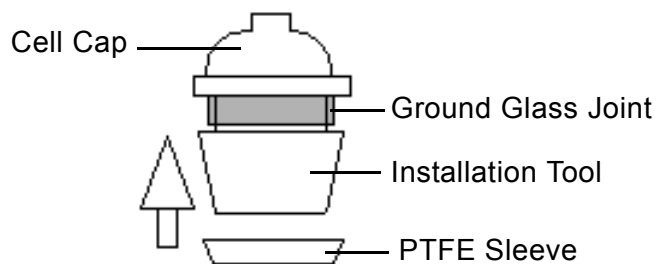

Figure 14. Installing the PTFE Sleeves
- 2 Starting with the wider opening of the PTFE sleeve, place the sleeve onto the tool as shown in Figure 14.